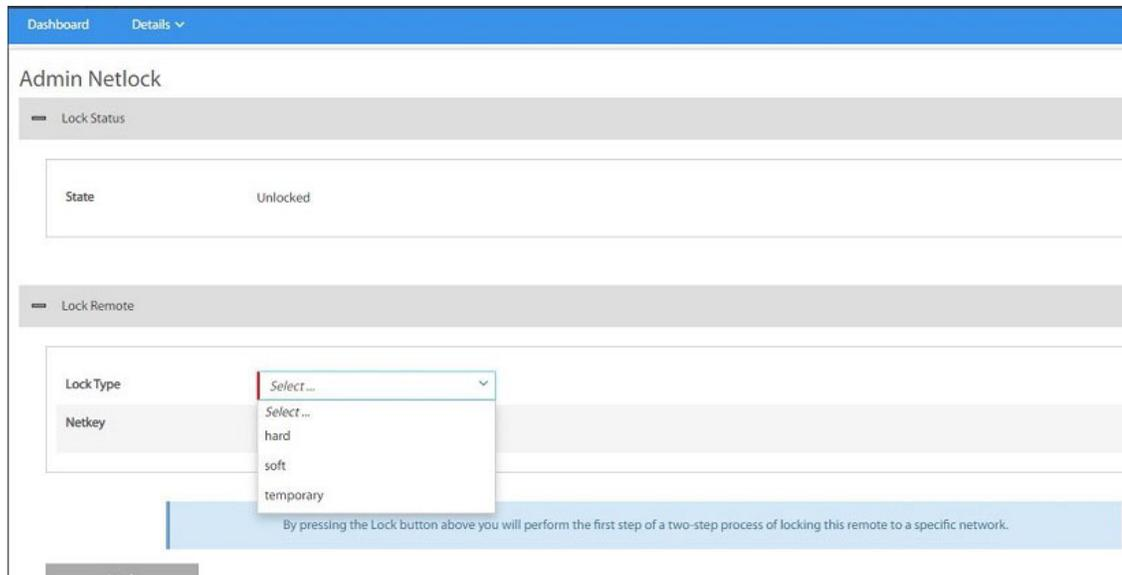

Figure B-2. Lock Type Drop-Down List Options
4. In the **Lock Remote** section, select **temporary** from the **Lock Type** drop-down list. See Figure B-2.
4. In the **Lock Remote** section, select **soft** from the **Lock type** drop-down list (see Figure B-2).
4. In the **Remote Lock** section, select **hard** from the **Lock Type** drop-down list (see Figure B-2).